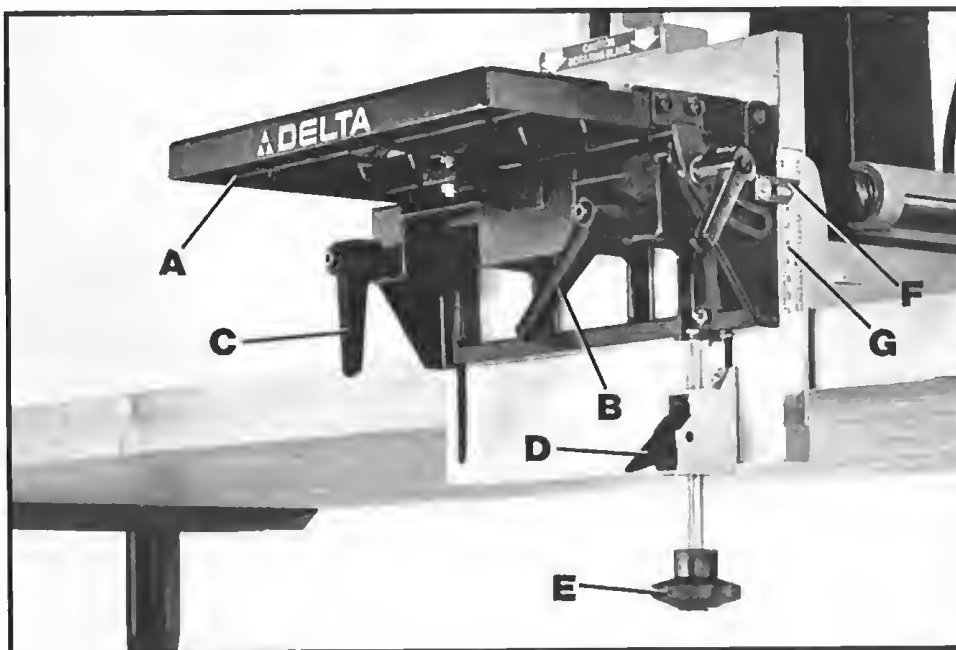

Fig. 21
1. To raise the table (A) Fig. 21, loosen the two table lock levers (B) and (C), manually raise table (A) to the desired height and tighten lock levers (B) and (C). **IMPORTANT: WHEN TIGHTENING LOCK LEVERS (B) AND (C), ALWAYS TIGHTEN LEVER (B) FIRST TO ENSURE TABLE WILL BE LEVEL ON BOTH SIDES.**
2. To lower the table (A) Fig. 21, loosen table lock levers (B) and (C) and while holding table (A) depress spring clip (D) and lower table to the desired setting. Then tighten lock levers (B) and (C). **IMPORTANT: WHEN TIGHTENING LOCK LEVERS (B) AND (C), ALWAYS TIGHTEN LEVER (B) FIRST TO ENSURE TABLE WILL BE LEVEL ON BOTH SIDES.**
3. For fine adjustments to the table setting, loosen table lock levers (B) and (C) Fig. 21, and turn Micro-Set adjustment knob (E) clockwise to raise or counterclockwise to lower the table. Tighten lock levers (B) and (C). **IMPORTANT: WHEN TIGHTENING LOCK LEVERS (B) AND (C), ALWAYS TIGHTEN LEVER (B) FIRST TO ENSURE TABLE WILL BE LEVEL ON BOTH SIDES.**
4. The distance the table surface is positioned below the bottom of the cutter is determined by the pointer (F) Fig. 21, on the dual english/metric scale (G). If an adjustment to the pointer (F) is necessary, loosen screw and adjust pointer accordingly.